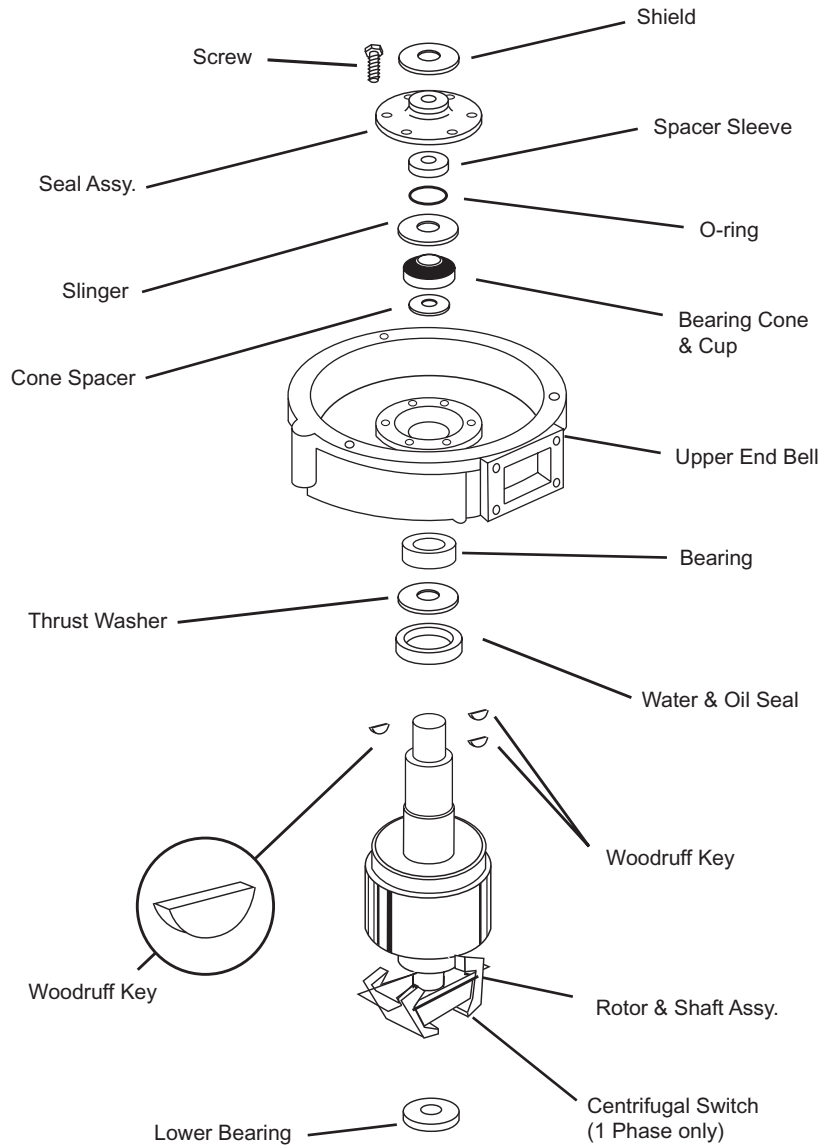

Figure 22. Upper End Bell and Rotor Assembly
- Carefully remove rotor shaft from upper end bell (Figure 22).
- Install spacer sleeve with channel fitting over O-ring, aligning sleeve notch with woodruff key (Figure 22).